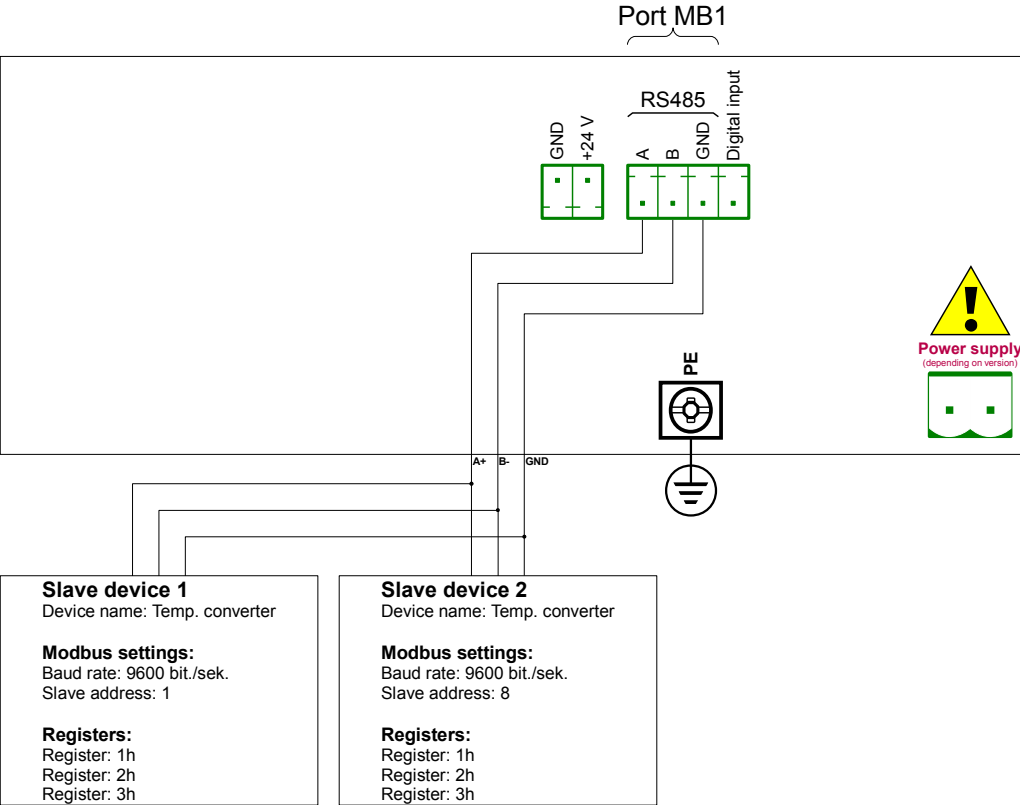

Fig. 7.150. Connection diagram for the Modbus port MB1
First configure the device, then connect the SLAVE device to the MultiCon (in accordance with **Fig. 7.150**).
- using the arrows in the upper right corner choose **Port number: 1 (MB1** in accordance with **Fig. 7.150)**,